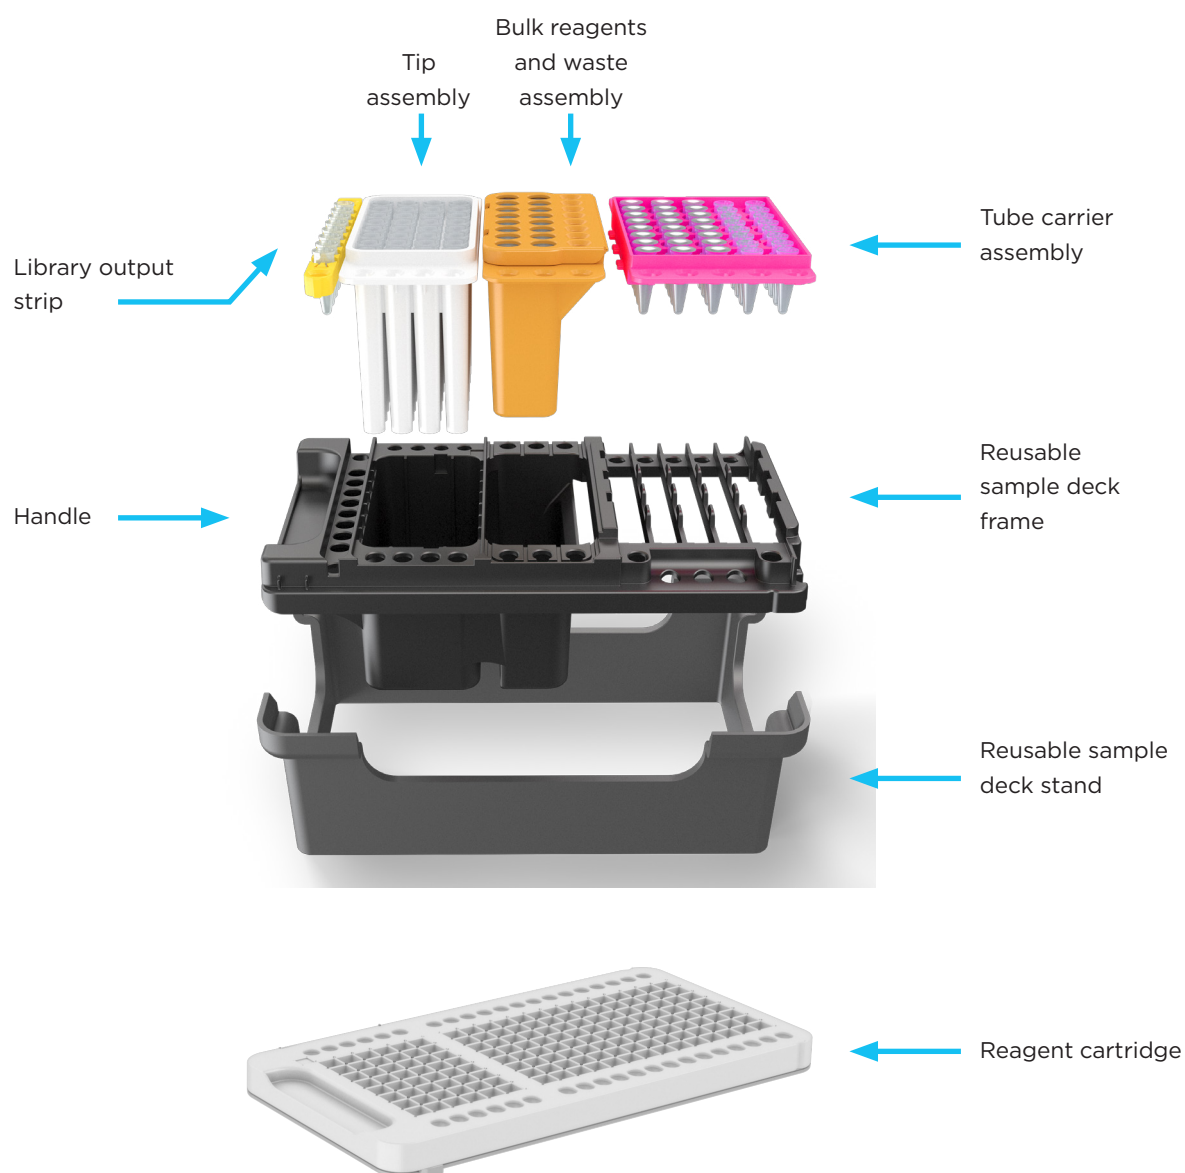

Figure 3. Sample deck components and reagent cartridge.
2. Place the box containing Revelo DNA-Seq Mech for MagicPrep NGS sample deck components (Figure 3; kept at room temperature) on a laboratory bench and open it.
5. Completed libraries are in the Library Output Strip (Figure 3). Seal library output strip tubes with the included strip caps before removing them from the library output assembly. The left-most tube (with the handle facing towards you) contains the library representative of your first sample. See **Appendix 6.1** for library index sequence positioning.